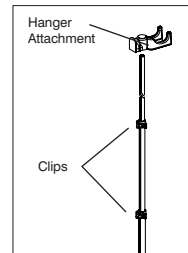

Figure 2
3. To attach the hanger attachment, align tabs in hanger attachment with grooves on pole and push down (Fig. 2).
4. Fully extend the telescopic pole. To do so, open the 3 clips on the pole and pull the pole upwards (Fig. 2). When fully extended close the clips. Make sure that the pole is securely locked into place and cannot be pushed downward.
1. Open the 3 clips (Fig. 2) on the telescopic pole and glide it slowly to collapse being careful not to pinch your fingers. When it is all the way down close the 3 clips back into place.